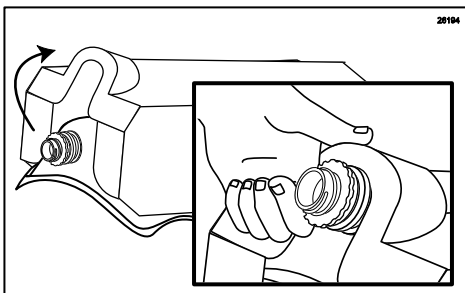

Figure 44
- Place the tray up-side-down over the bag and pull the fitment into the tray opening as shown. The grooves of the bag fitment should slide into the tray opening. (See Figure 44.)